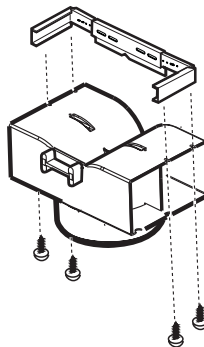

Fig. 2
- Fix the deflector using 4 screws. **Fig. 2**.